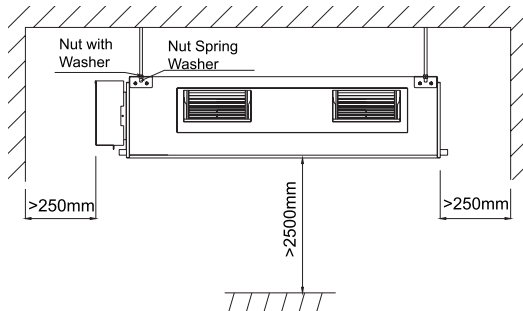

Fig.3.1
- (1). Install the unit at a place where is strong enough to withstand the weight of the unit.
- (2). The air inlet and outlet of the unit should never be clogged so that the airflow can reach every corner of the room.
- (3). Leave service space around the unit as required in Fig.3.1.